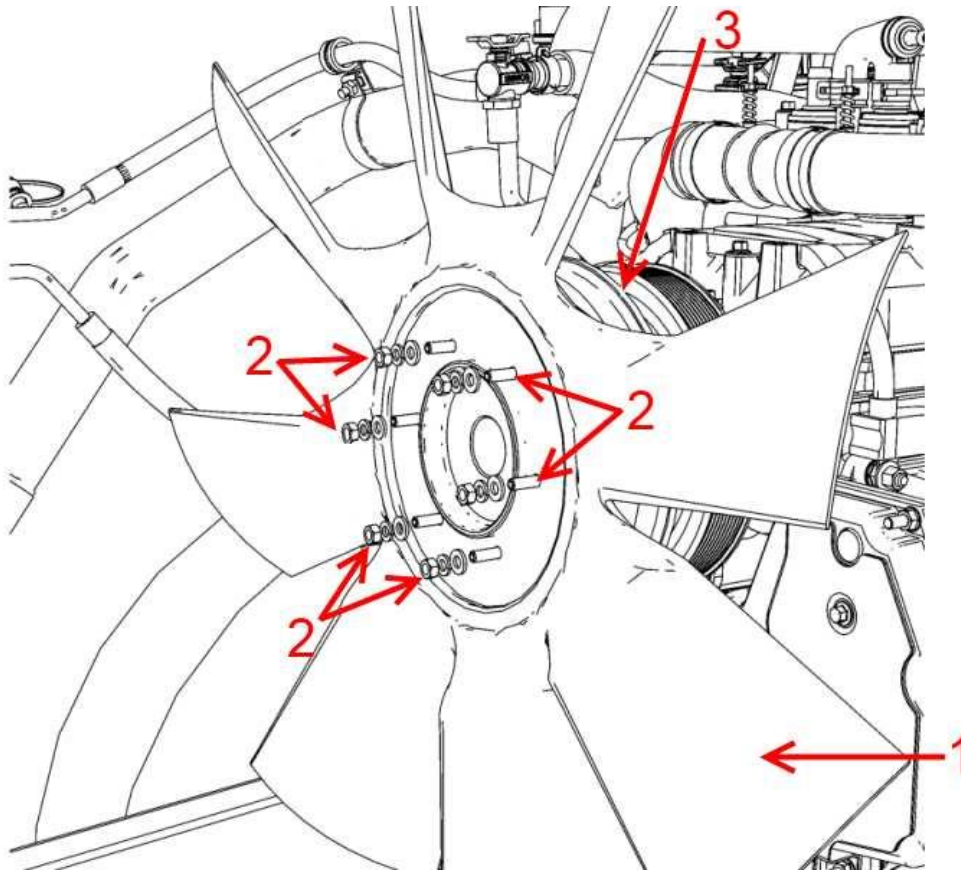

**Figure 7: Radiator Fan Shroud**
16. Remove the 11 bolts and 6 nuts (**Figure 7**, Item 1) securing the upper fan shroud to the radiator.
17. Carefully remove the upper fan shroud (**Figure 7**, Item 3) from the radiator.